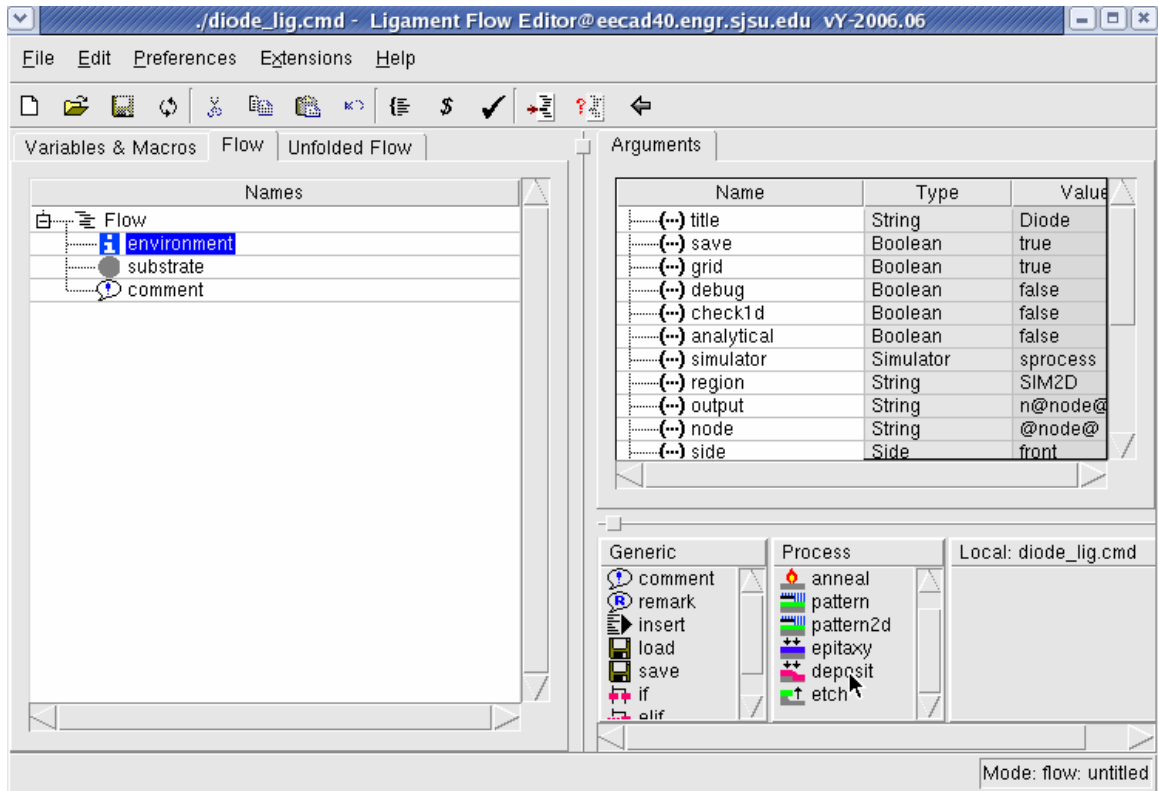
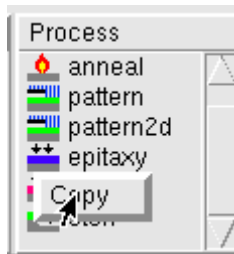
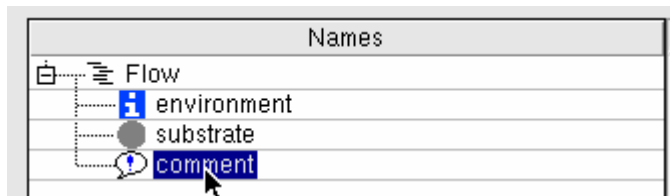
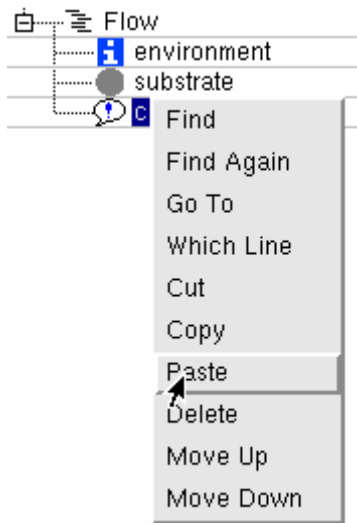

Figure 55: Adding a deposit step.
Figure 56: Copy a Deposit step.
Figure 57: Pasting a Deposit step after comment.
Figure 58: Past the step.
8. Add an Spin On Glass (SOG) oxide layer that will be used for the dopant source by going back to the ligedit (Figure 55) GUI, and copying a deposit command(Figure 56) and pasting it after the comment (Figure 57, Figure 58).